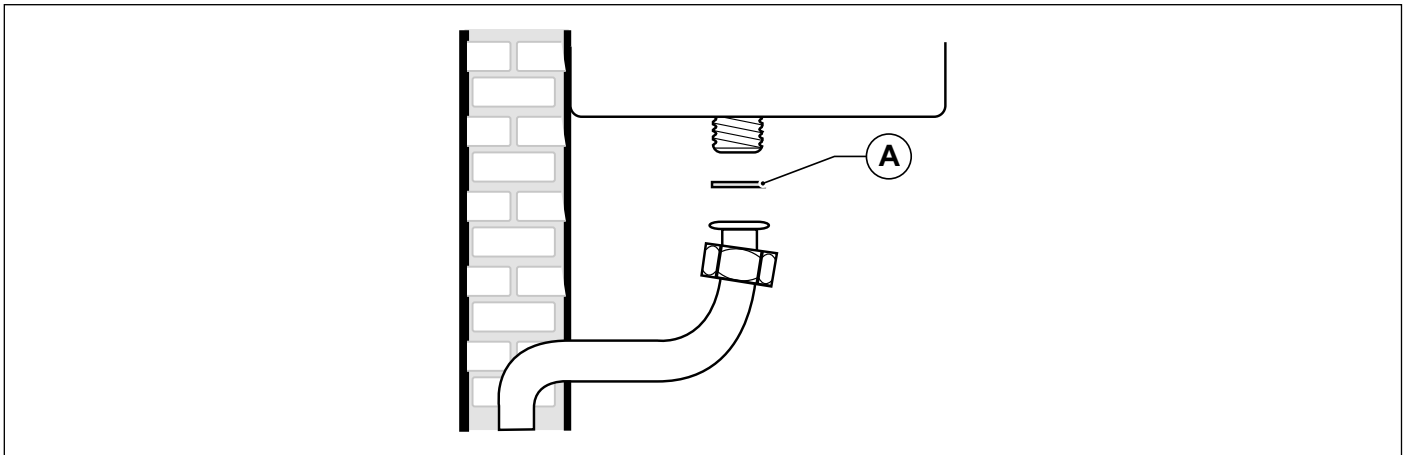

Fig. 21 Connection to gas mains
When connecting the boiler to gas supply network, it is **COMPULSORY** to install an appropriately sized gasket (A) made from suitable material (see Fig. 21 Connection to gas mains).